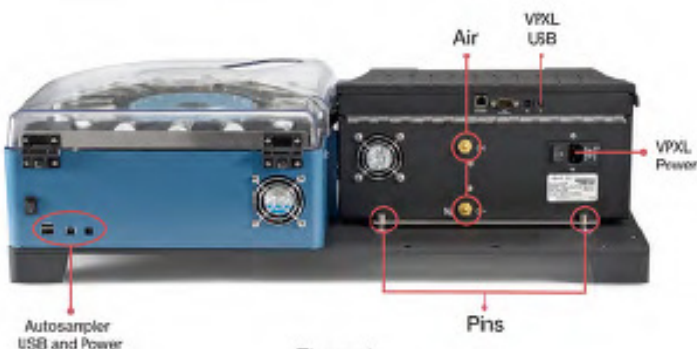

Figure 3
- Place the Vapor Pro XL onto the Autosampler by aligning the two pins on the Autosampler with the two holes on the flange at the rear of the Vapor Pro XL (fig. 3).
- Connect power adapters to both the rear of the Vapor Pro XL and Autosampler, and connect the supplied USB cable between the two at the rear of the units (the type A connector to the Vapor Pro XL, the type B to the Autosampler). Also, connect the input air connection to the Vapor Pro XL (fig. 3).